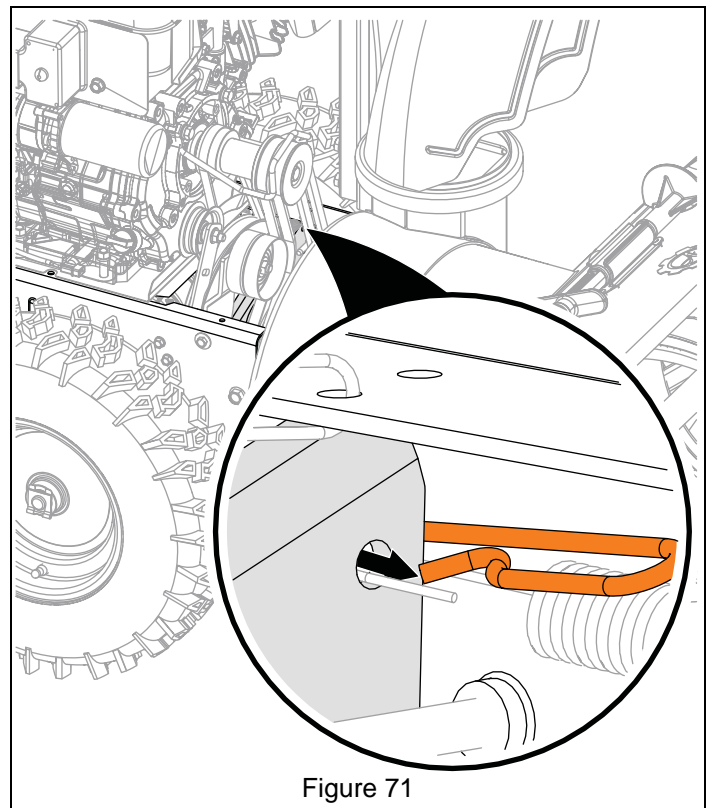

Figure 71
8. Remove lower traction clutch cable hook from swing gate. See Figure 71.